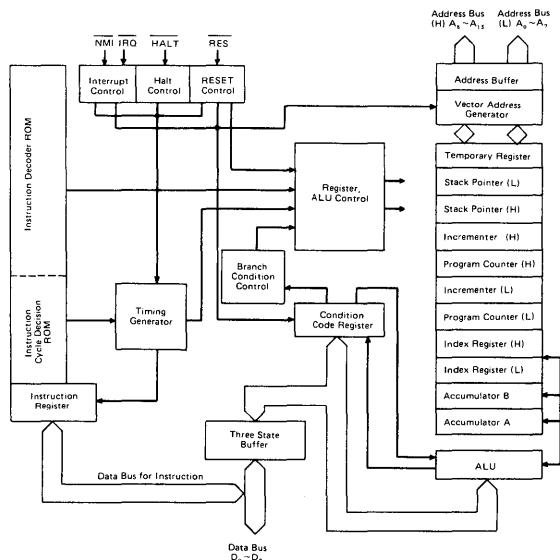

Figure 9 Internal Block Diagram of MPU
The condition code register indicates the results of an Arithmetic Logic Unit operation: Negative (N), Zero (Z), Overflow (V), Carry from bit 7 (C), and half carry from bit 3(H). These bits of the Condition Code Register are used as testable conditions for the conditional branch instructions. Bit 4 is the interrupt mask bit (I). The unused bits of the Condition Code Register (b6 and b7) are "1". The detail block diagram of the microprossing unit is shown in Fig. 9.
Proper operations of the MPU requires that certain control and timing signals (Fig. 9) be provided to accomplish specific functions. The functions of pins are explained in this section.